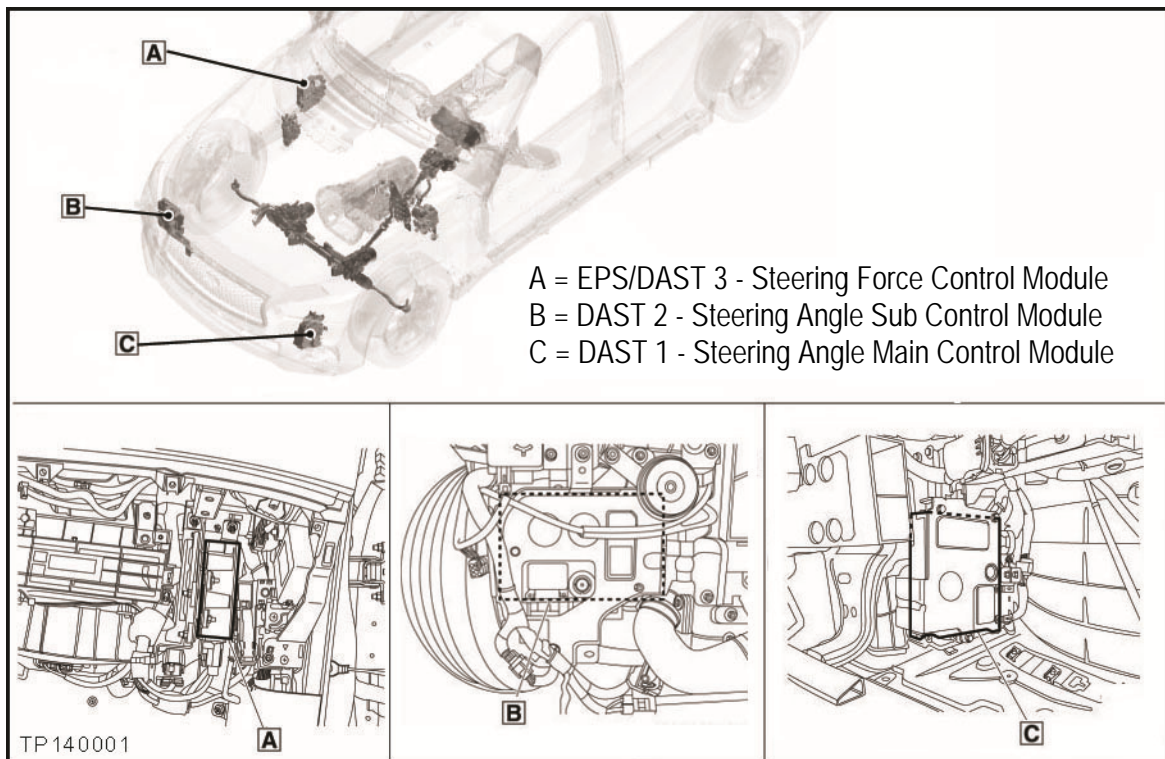

Figure R1
1. Replace all three DAST Control Modules (see Figure R1):